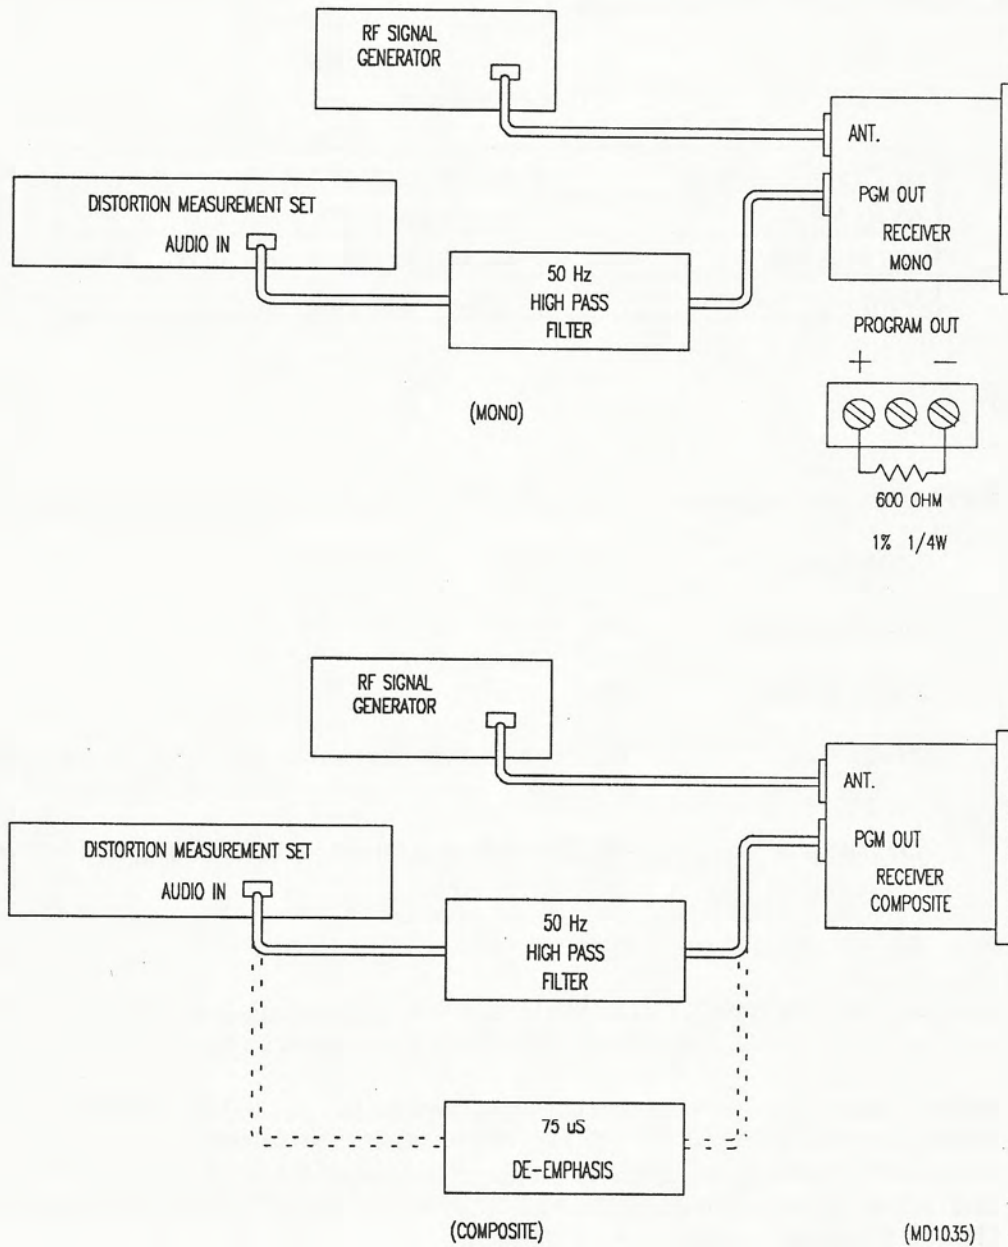

Figure 5-2
1. Connect equipment as shown in Figure 5-2. Set the controls on the signal generator as follows: